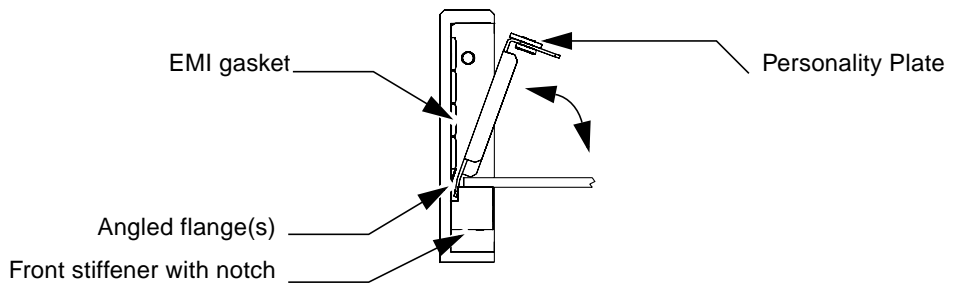

FIGURE 7 Personality Plate Installation (Top View)
2. **Install the personality plate by locating the angled flange to the notch of the front stiffener and swinging the personality plate into place against the EMI gasket as shown in FIGURE 7 on page 8.**